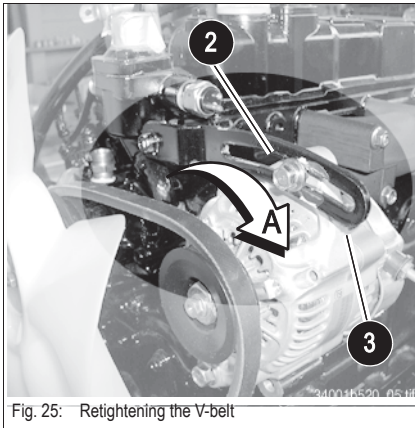

Fig. 25: Retightening the V-belt
- ☞ Use a suitable tool to push the alternator in the direction of arrow **A** until reaching the correct V-belt tension (fig. 25)